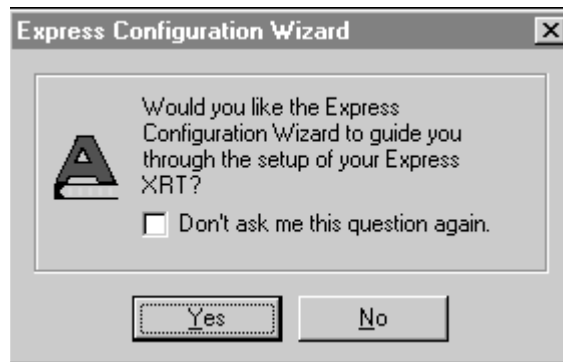

Figure 2-5
3. If auto-detection is successful, the screen shown in Figure 2-5 displays. Go to step 5.
5. Select **Cancel**. The screen shown in Figure 2-5 on page 16 displays.